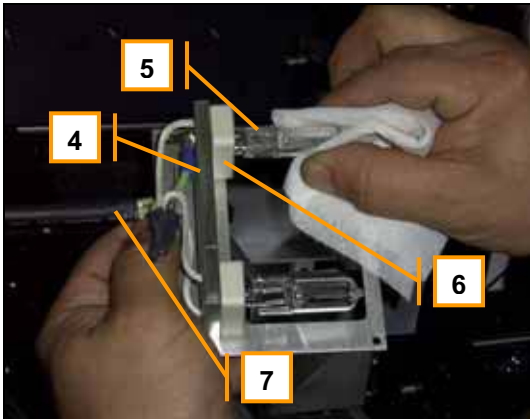

Figure 32: Changing halogen bulbs
Remove the four corner screws (1) securing the top or bottom lighting cover (2) as required. Carefully pull the cover straight out of the housing (3) with the bulb mount (4) still attached. See Fig. 32, replacement bulbs must be of the exact type as the original equipment (75 W Max.)